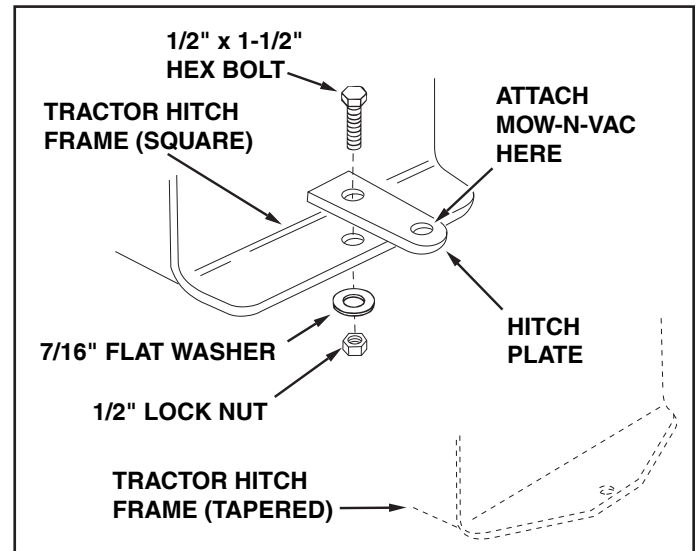

FIGURE 18
- Use a 1/2" x 1-1/2" hex bolt, a 7/16" flat washer and a 1/2" lock nut. See figure 18.